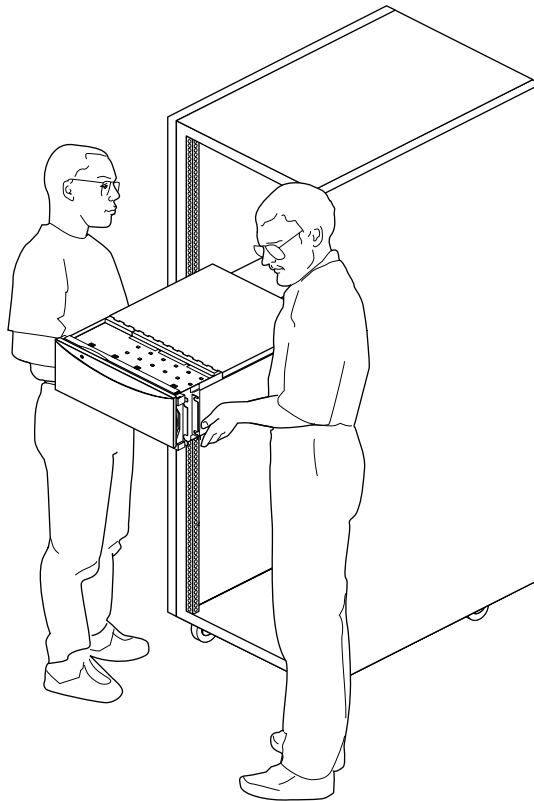

Figure 3-5 Lifting the Origin200 Server Into a Rack
2. With a person on each side of the chassis, lift the server and move it to the equipment rack, as shown in Figure 3-5.